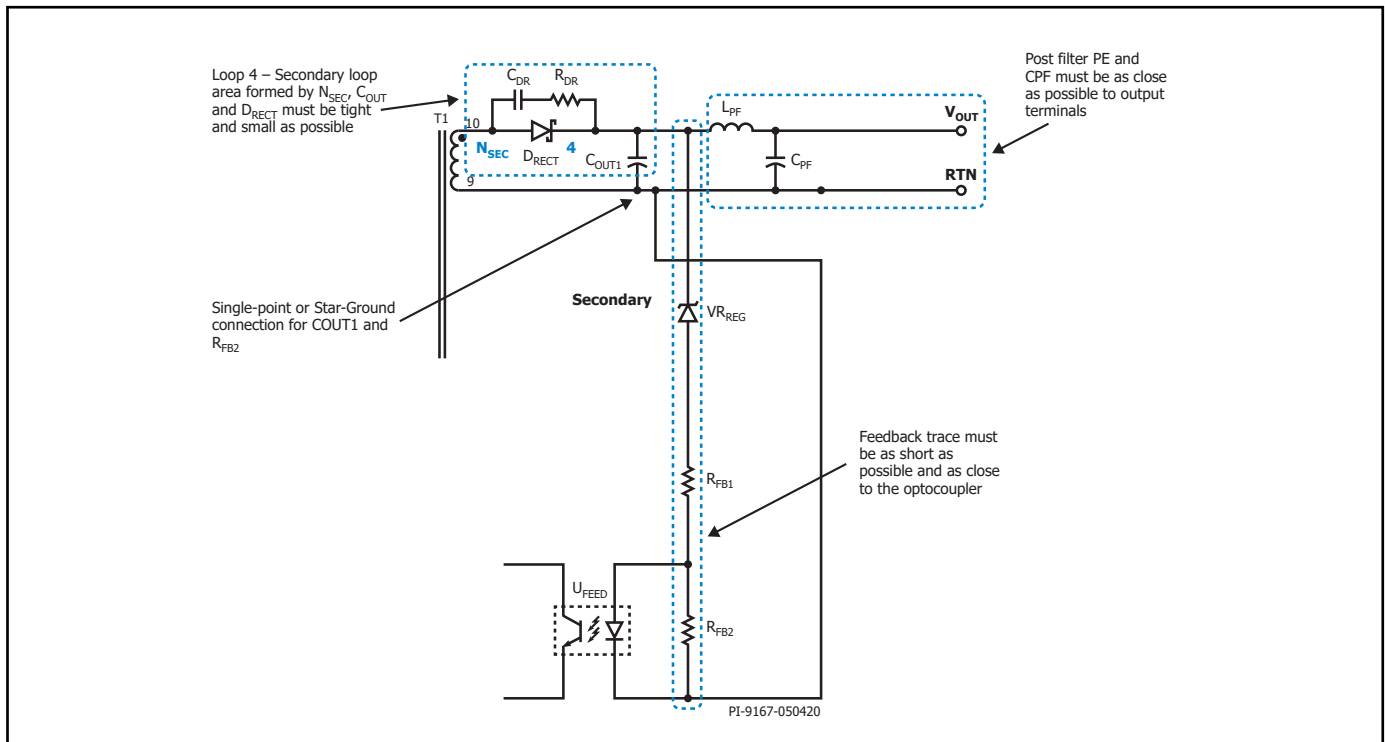
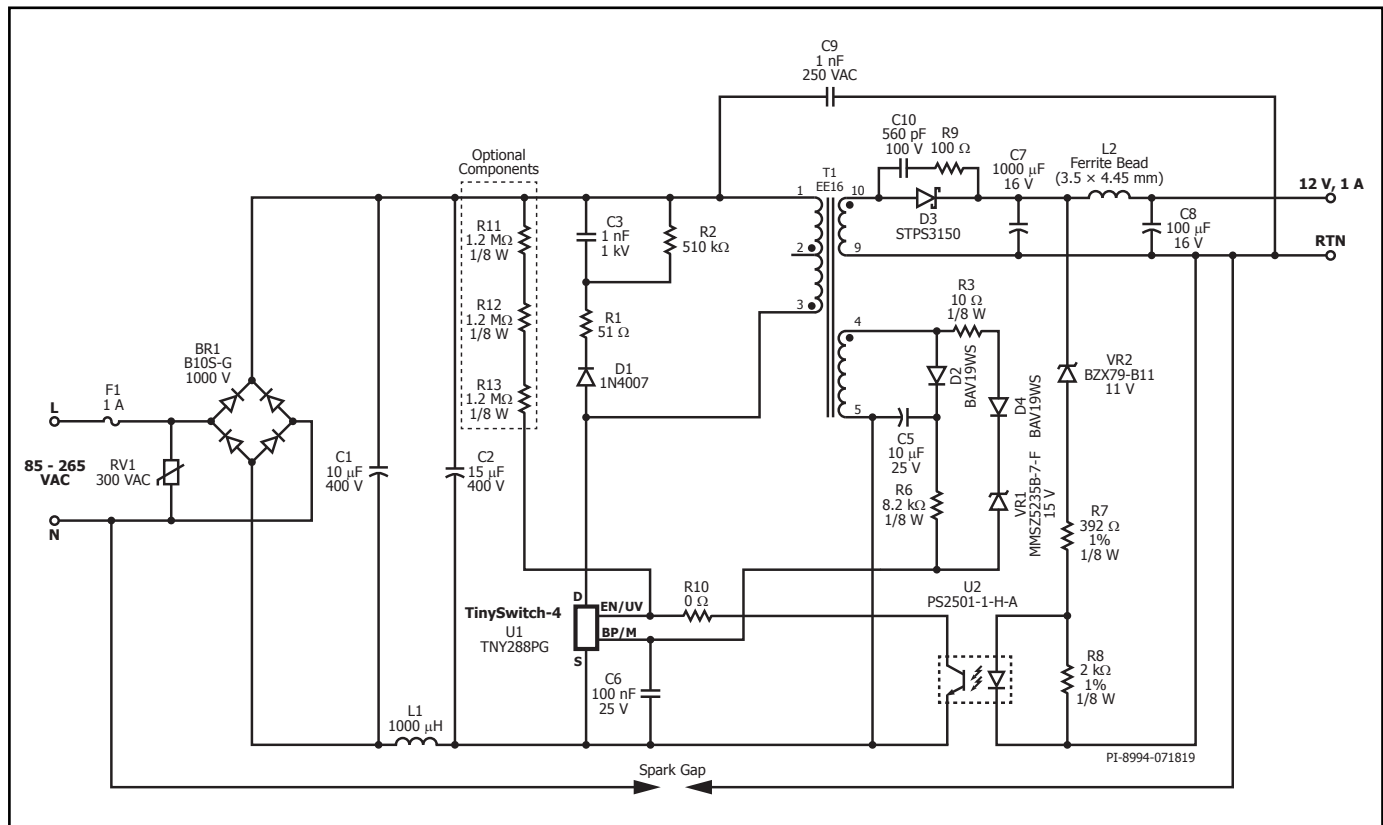

Figure 40. Secondary-Side Typical Schematic of TinySwitch-4 Showing Critical Loops Area, Critical Component Traces and Single-Point or Star Grounding.
Figure 46. Schematic of RDR-839 12W, 12V Power Supply Using TinySwitch-4 TNY288PG.
- Use a Y capacitor connected from either positive or negative output terminals to the input bulk capacitor's positive terminal. In reference design RDR-839 as shown on Figure 46 schematic, traces routing of Y capacitor C9 is directly to bulk capacitor positive terminal of C2 and the other end directly to RTN output terminal. See Figure 40 and 41 for layout and component placement reference and Figure 38 (C_Y as Y capacitor) for schematic reference.
The circuit shown in Figure 46 is a low-cost, high efficiency, flyback power supply designed for 12 V, 1 A output from universal input (85 VAC to 265 VAC) using TNY288PG.